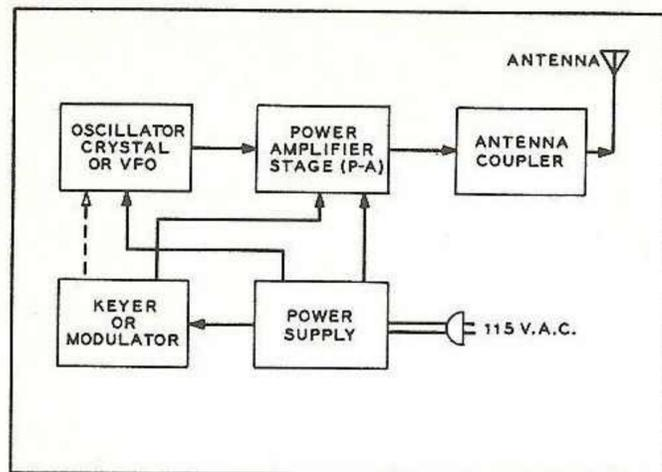
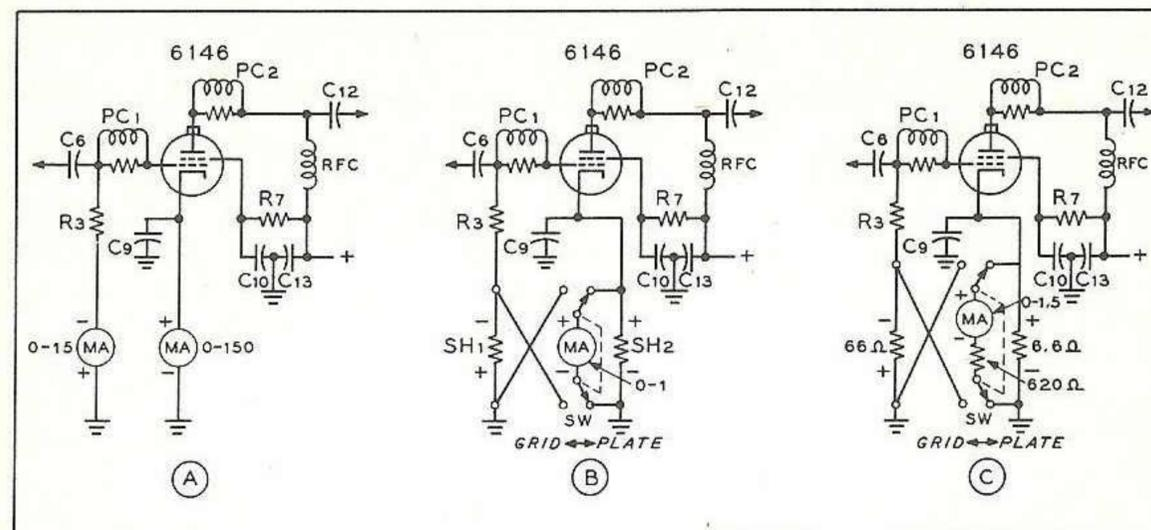
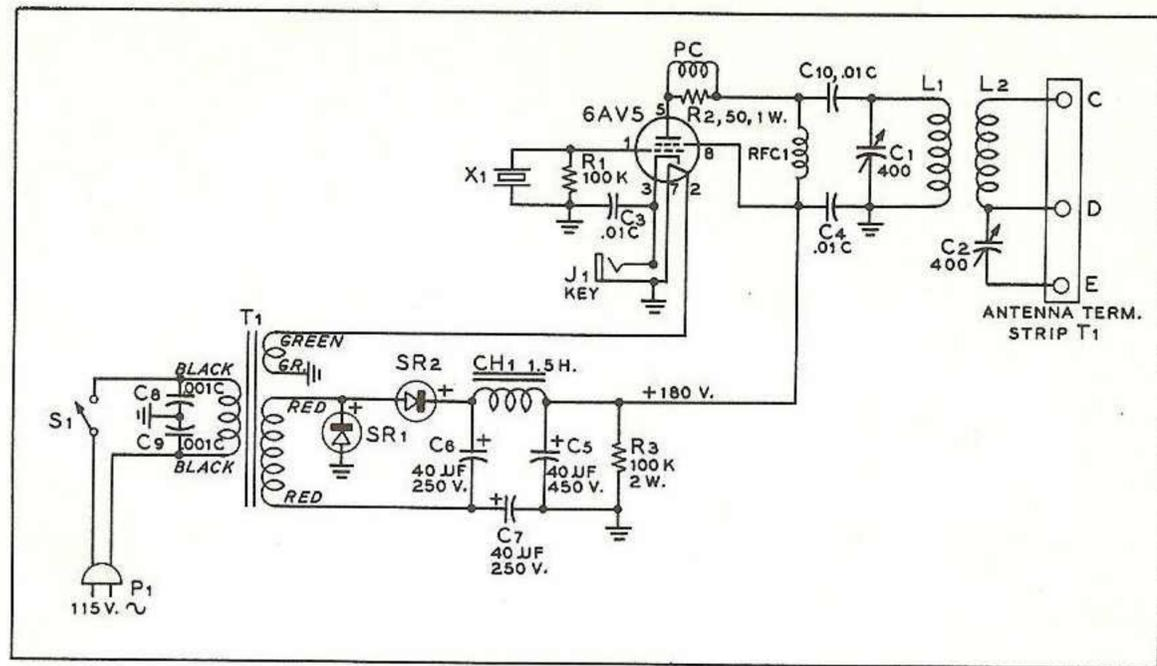

Fig. 1 Any modern transmitter is made up of five basic building blocks, discussed at length in the text.
Fig. 3 By the use of a suitable switching circuit, a single 0-1.5 d-c milliammeter may be used to measure grid and plate currents of an amplifier stage.
Fig. 2 Schematic of LJ-15 transmitter. Voltage-doubler power supply is used.
The fundamental parts of a simple transmitter are shown in Figure 1. The first building block is the *signal generator*, or *oscillator*. This circuit generates the radio signal at some specific frequency. In the case of the Novice, this frequency is crystal controlled. That is, the frequency is predetermined by using a mechanical resonator (quartz crystal) instead of a variable tuned circuit, such as shown in Figure 1, chapter 4. The quartz crystal has the same properties of frequency selection and rejection as does the tuned circuit—only more so! The frequency of operation is fixed by the physical dimensions of the crystal. In addition, the crystal has no knob to tweak to vary the frequency of resonance. When you use a crystal you are "rock bound" to one spot in the band. No amount of oscillator tuning will change the frequency of the stubborn crystal. An oscillator may be built which does not use a crystal, employing instead a variable resonant circuit of inductance and capacity for frequency determination. This gadget is termed a *variable frequency oscillator*, or *VFO*.
Another basic building block of the transmitter is the *keyer*, or *modulator*. This unit imposes the chosen intelligence upon the carrier wave. A simple telegraph key may be used for c-w transmission. A more complex modulator is required for phone transmission, and a whole room full of equipment is needed for radio teletype and television transmission. Various types of carrier modulation are shown in Figure 2, chapter 2.
Let's combine these basic building blocks into a complete, workable transmitter (Figure 2). This circuit is a simplified version of the all-band two
Fig. 2 A simplified diagram of the AB-60 transmitter shown in chapter 7. A 6AG7 harmonic crystal oscillator drives a 6146 amplifier-doubler stage. Good output may be obtained as high as eight times the crystal frequency. Operation of the complete circuit is covered in this chapter, as well as metering ideas.
The first additions to the basic transmitter of Figure 2 are metering circuits. Possible parameters to meter are the screen and plate currents of the oscillator, and the grid, screen and plate currents of the 6146 amplifier. The values of oscillator and amplifier screen and plate voltages are determined by power supply components, and need be checked only during the initial tuning process. Correct oscillator operation may be noted by measuring the value of grid current flowing through R3, so it is not necessary to measure the plate or screen current of the 6AG7 tube. Grid current measurement will also provide an important check on the operation of the amplifier stage.
Fig. 1 The "Little Jiffy" 15-watt transmitter is only 3"x5"x7" in size and uses a single 6AV5 tube. Antenna tuning capacitor C2 is at the right, with coils L1-L2 directly behind it. Antenna terminal strip is at far left, with power transformer T1 to the rear.
The schematic of the LJ-15 ("Little Jiffy fifteen watter") is shown in Figure 2. A 6AV5 pentode tube is used as a crystal oscillator, with a plate circuit covering both 80 and 40 meters. A simple antenna tuner (L2-C2) allows "Zepplin" tuned feeders, a low impedance transmission line, or end fed antenna systems to be used with equal ease. Several antennas for use with this transmitter are shown in chapter 9. The power supply consists of a half-wave transformer (T1) and a voltage doubler rectifier, using two selenium rectifiers (SR1 and SR2). The supply will deliver 15 watts to an intermittent load, such as provided by c-w operation. The complete transmitter is constructed upon the "top" of an aluminum box measuring 7" x 5" x 3". Placement of the major components may be seen in Figures 1 and 4, and in the chassis drawing layout, Figure 3.
- ( ) Lay out the chassis holes (Figure 3) to be drilled on the paper wrapper of the chassis. Drill the holes and remove the burrs.
Fig. 3 Parts layout and chassis template for LJ-15 transmitter. Coil brackets for L1-L2 are shown at upper right. The test circuits are shown at the lower right.
- ( ) Install a .001 ceramic capacitor (C8) from one lug of the two terminal phenolic tie-point (K) to the center, grounded terminal.
- ( ) Install a .001 ceramic capacitor (C9) from the other lug of tie-point strip (K) to the center, grounded terminal.
- ( ) Install a 40 uf electrolytic capacitor (C7) between terminals 1 (plus) and 5 (minus) of the two four terminal strips (Figure 3).
- ( ) Install a 40 uf electrolytic capacitor (C6) between terminals 4 (plus) and 8 (minus) of the two four terminal strips (Figure 3).
- ( ) Connect a lead from terminal 1 of strip A to terminal 8 of strip B (Fig. 3).
- ( ) Cut two coil support brackets from soft aluminum (Figure 3).